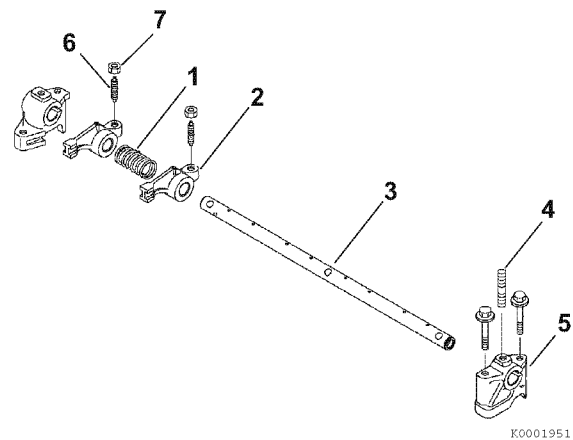

Figure 6-33
1. Lubricate the rocker arm shaft. Slide the rocker arm supports (5, **Figure 6-33**), springs (1, **Figure 6-33**) and rocker arms (2, **Figure 6-33**) onto the shaft.
- To properly align the rocker arm shaft with the rocker arm shaft supports, first reinstall a rocker arm support (5, **Figure 6-33**) having a hole for the shaft alignment stud (4, **Figure 6-33**). Align the hole in the rocker arm shaft and the hole in the rocker arm support. Reinstall the alignment stud.
Note: **Figure 6-33** shows components for one cylinder. Components for all remaining cylinders are assembled in the same order.
3. If removed, reinstall the valve adjusting screws (6, **Figure 6-33**) and the lock the nuts (7, **Figure 6-33**).